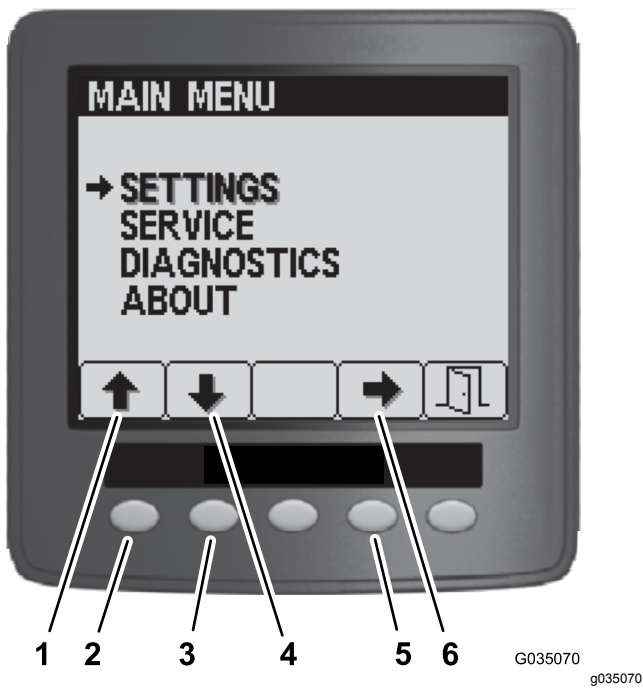

Figure 100
3. On the Main Menu, press button 1 or button 2 until the Settings option is highlighted, and press button 4 to navigate to the Settings menus (Figure 100).